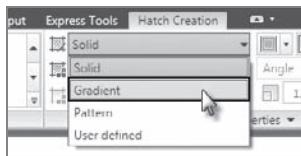

FIGURE 11.12 Using the contextual Hatch Creation tab to change the Hatch Type to Gradient
3. Make the A-ELEV-SHAD-PATT layer current, and then start the HATCH command. From the Properties panel within the Hatch Creation tab, change the Hatch Type property to Gradient (see Figure 11.12).